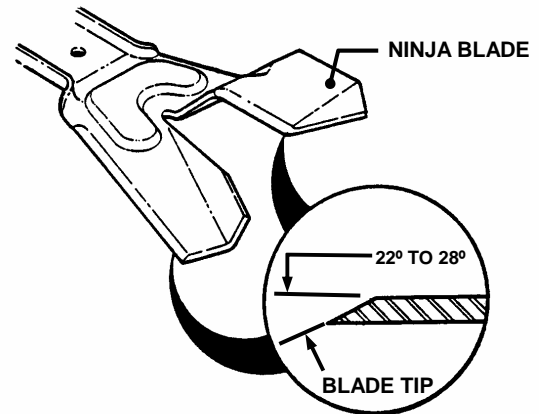

FIGURE 4.20
5. Sharpen all cutting edges of the Ninja recycling blade at an angle of 22 to 28 degrees for optimum performance. See Figure 4.20.